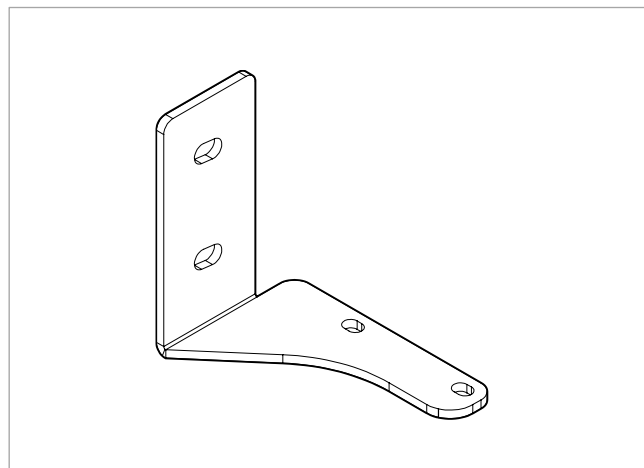

Figure 9.1
- The side panel end bracket is shown below in Figure 9.1.